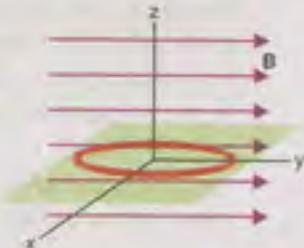

Fig. Q. 15.7
- 15.7 The Fig.Q.15.7 shows a coil of wire in the  $xy$  plane with a magnetic field directed along the  $y$ -axis.